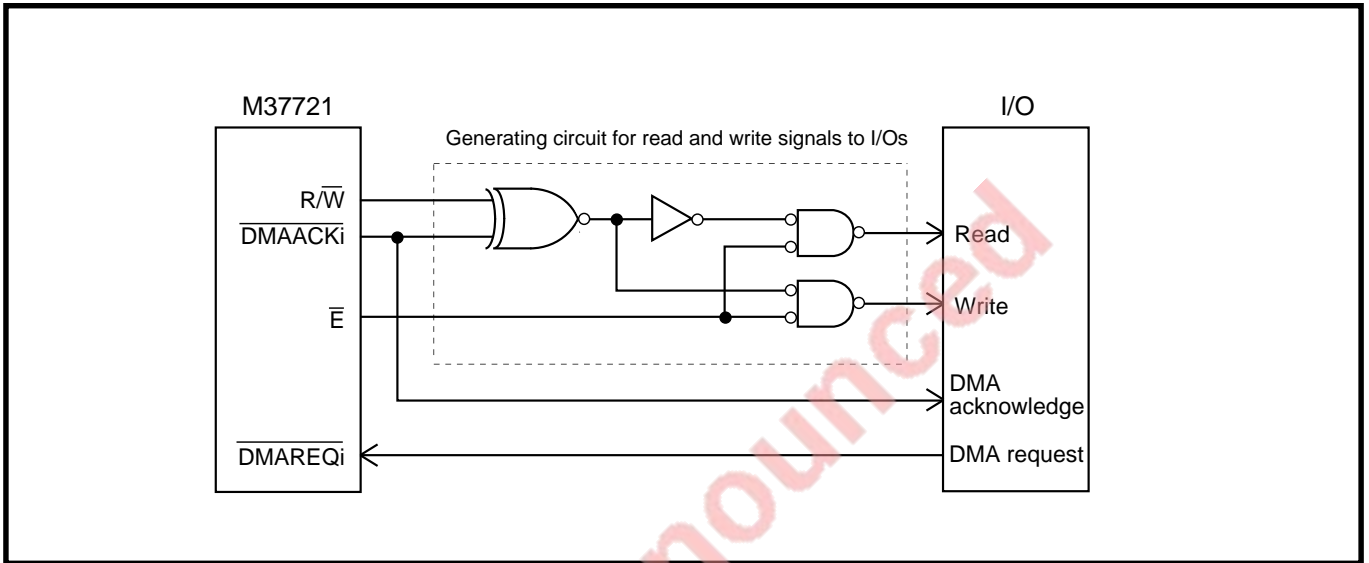

Fig. 13.4.5 Example of circuit generating write signal and read signal for I/Os
- The M37721 outputs signals to the memory. Accordingly, make sure to compose the circuit which generates write signals for I/Os when the M37721 outputs read signals; which generates read signals for I/Os when the M37721 outputs write signals. Figure 13.4.5 shows an example of the circuit generating a write signal and a read signal for I/Os.